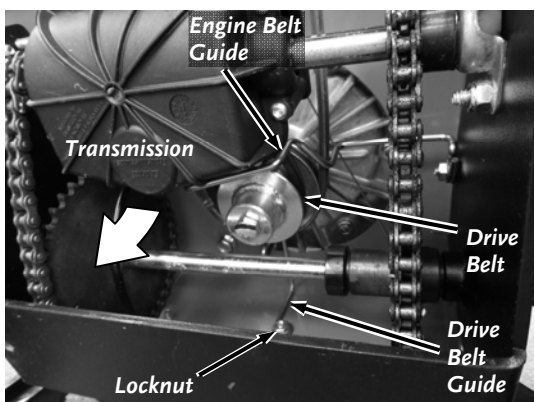

Figure 31
6. Loosen the Drive Belt Guide Locknut at the rear of the Frame using a 7/16" Wrench and rotate the Guide out of the way (**Figure 31**).